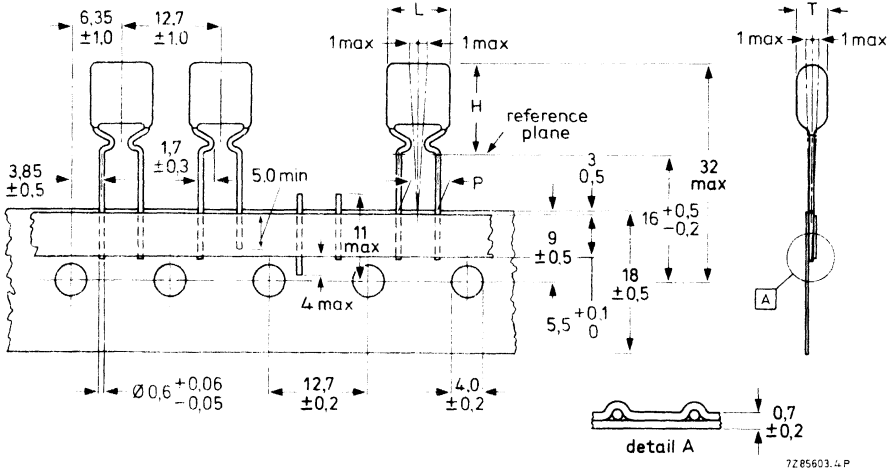

Fig. 1 Capacitors 2222 365 on tape.
Table 1 U_R (DC) = 63 V; max. AC voltage = 40 V; Fig. 1; pitch = 5,08 mm
Table 2 U_R (DC) = 100 V; max. AC voltage = 63 V; Fig. 1; pitch = 5,08 mm
Table 3 U_R (DC) = 63 V; max. AC voltage = 40 V; Fig. 1; original pitch 7,62 mm reduced to 5,08 mm
Table 4 U_R (DC) = 100 V; max. AC voltage = 63 V; Fig. 1; original pitch 7,62 mm reduced to 5,08 mm
Table 5 U_R (DC) = 250 V; max. AC voltage = 160 V; Fig. 1; original pitch 7,62 mm reduced to 5,08 mm
Table 6 U_R (DC) = 400 V; max. AC voltage = 220 V, Fig. 1, original pitch 7,62 mm reduced to 5,08 mm